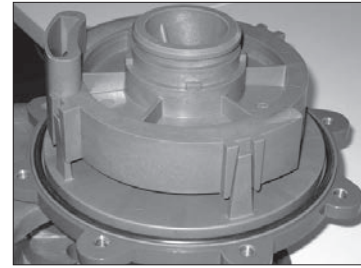

Figure 18
8. To remove the inner volute, pull back on the (3) snap fit prongs one at a time so that the hook portion falls into the channel on the inner volute. See figure 18.